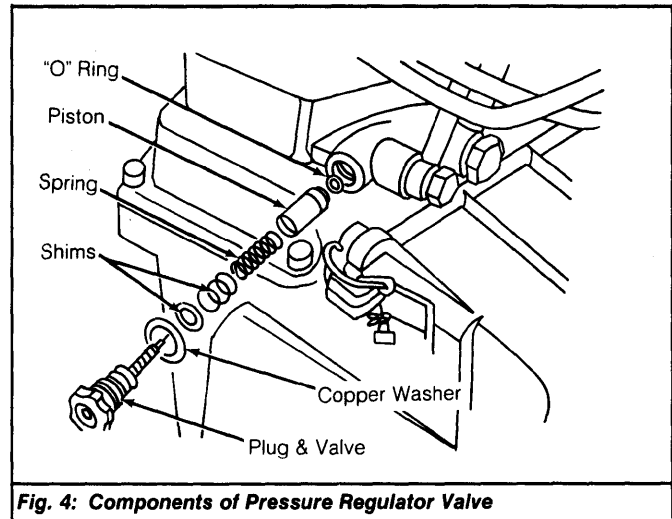

Fig. 4: Components of Pressure Regulator Valve
4) System pressure may be adjusted by adding to or removing shims from valve. See Fig. 4. Pressure will be changed 1 psi (.06 kg/cm2) by a .004" (.1 mm) shim or 4 psi (.3 kg/cm2) by a .020" (.5 mm) shim.